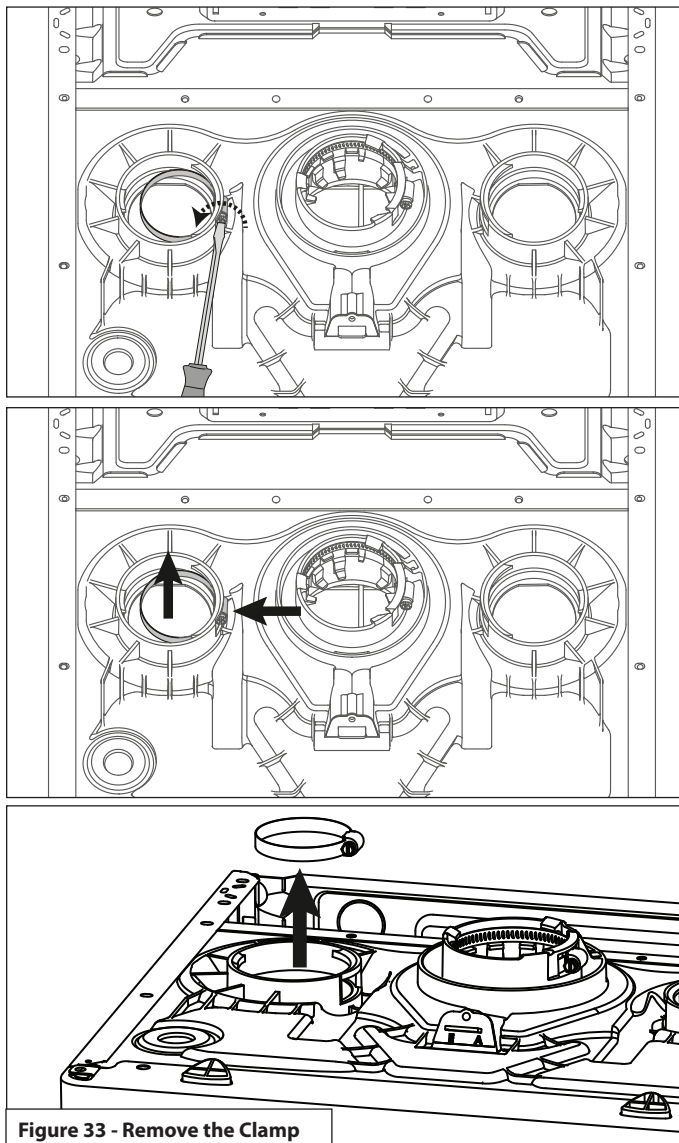

Figure 33 - Remove the Clamp
2. If using the right side connection, remove the gear clamp from the left side connection and install it on the right side. See Figure 33.
4. Tighten the gear clamp using a screwdriver. See Figure 33.